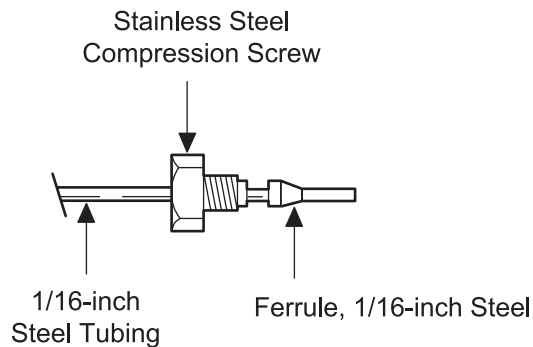

Figure 2-4 Compression Screw, Ferrule, and Tubing
Figure 2-4 shows how to use the connectors listed above.
1. Slide the compression screw onto the tubing end (see Figure 2-4). Slide the ferrule onto the tubing with the broad end of the taper toward the screw.